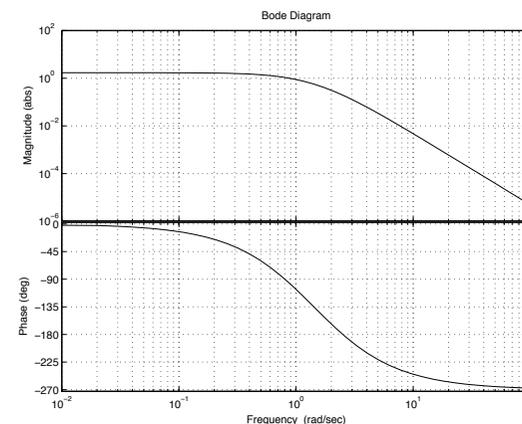

Figure 4.11a
4.11 a) The bode digram of the system is shown in Figure 4.11a.